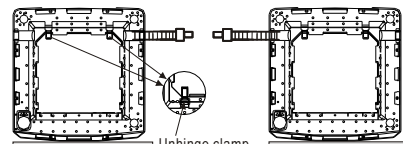

Figure 3
4. Put your hand into the machine and loosen the clip of drain pipe support then pull inside the pipe and fetch out from the other side and set it on the clip, as indicated in Figure 3.